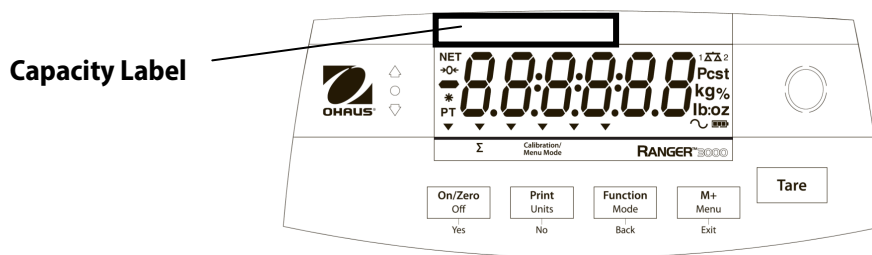

Figure 5 -1. Capacity Label location
3. Set the switch to Locked. See figure 5 -2.